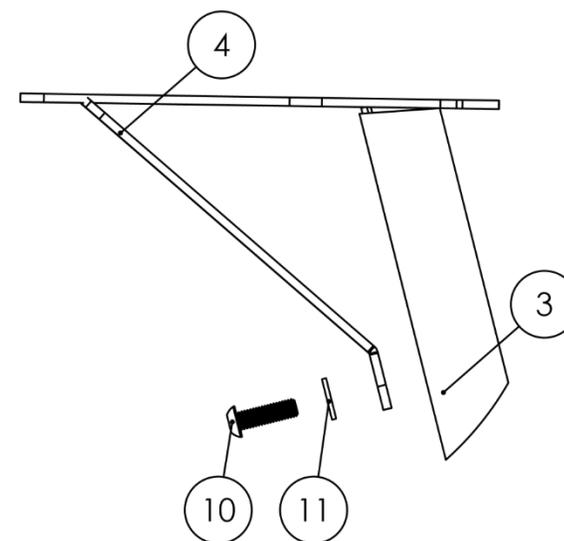

Figure 4
3. **Attach the Crossbar Gussets to the Legs.** Locate the (4) Legs (Item No. 3) and (4) Crossbar Gussets (Item No. 4) that have been provided in your assembly. Examine the Legs and notice that two holes have been pre-drilled but are unequal in distance to their respective edge. The hole that is 5.5" away from its edge will be the hole that will be used to fasten the Crossbar Gussets. As shown in Figure 4, slide the Crossbar Gussets into the Legs and secure the parts by threading a 1.25" Button Head Cap Screw (Item No. 10) and a Metal Washer (Item No. 11) into the concentric holes.